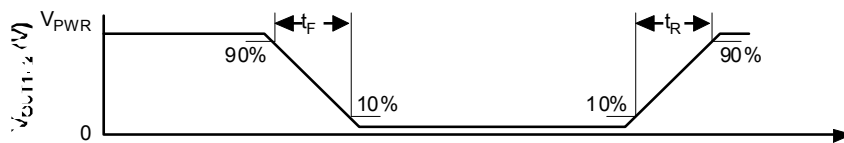

Figure 8. Output Switching Time
- 30 Rise Time is from the 10% to the 90% level and Fall Time is from the 90% to the 10% level of the output signal. See Figure 8, page 12.